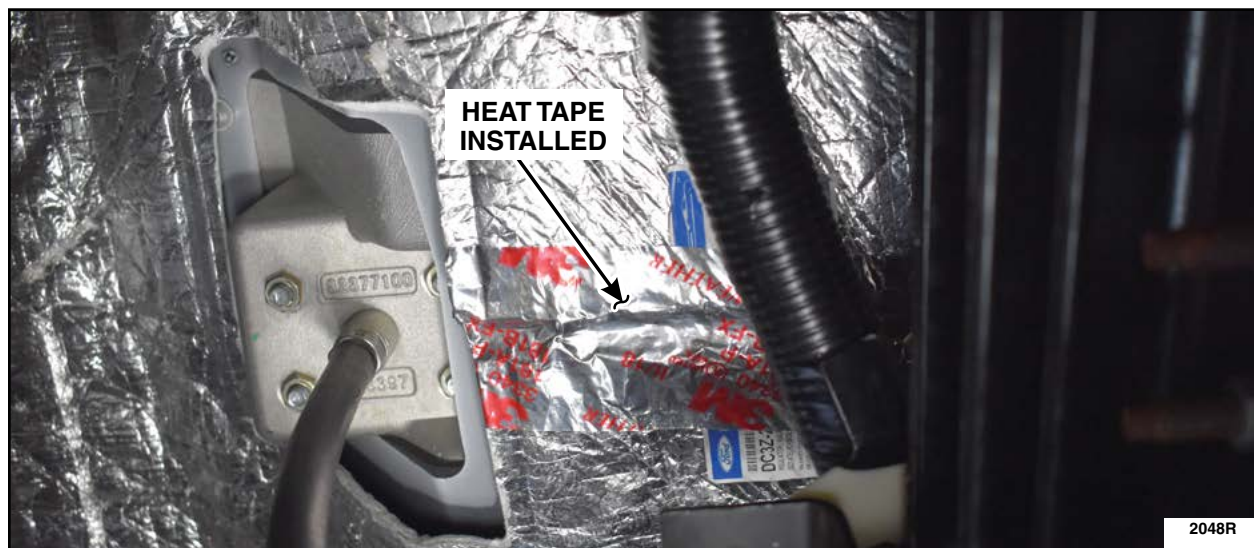

FIGURE 27
- Using a pair of scissors, cut a 9 in. strip of heat tape. Remove the protective backing from the heat tape and center it over the cut line for the parking brake cable (made in Step 1.) then press the sticky side on the shield. Continue to press the heat tape into the heat shield to prevent the two halves from separating. See Figure 27. Repair Complete.